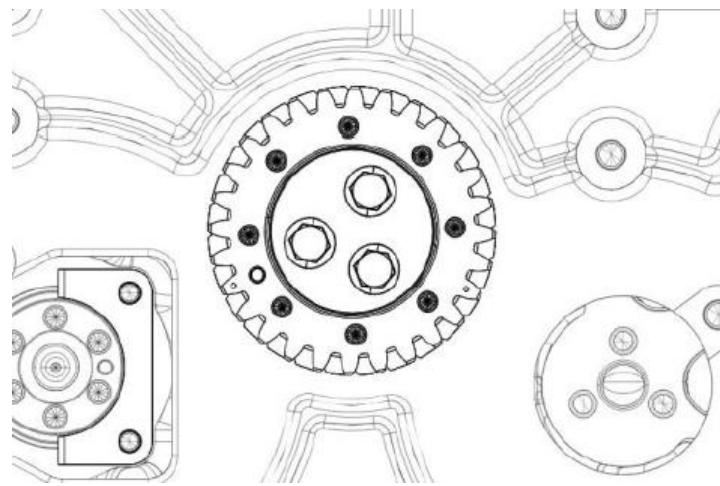

Figure 123.
2. Oil the idler gear (Figure 123) and install onto the engine block, insert the spacers with the bolts and torque the bolts to 52 ± 5 lb-ft.